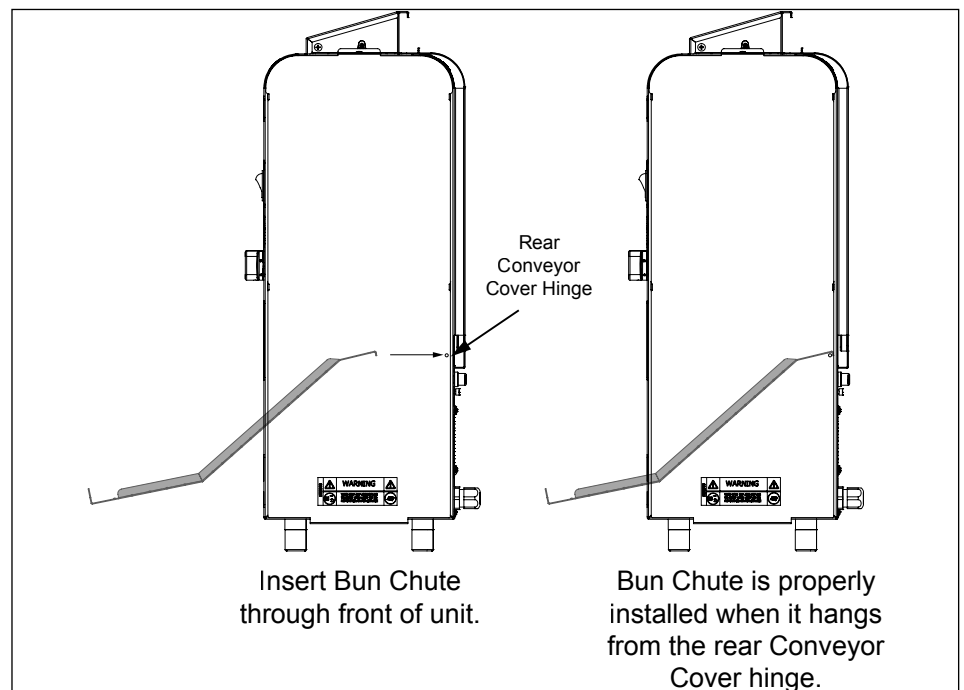

Figure 2. Installing Bun Chute
NOTE: The factory has pre-installed a Release Sheet over the Platen (Figure 2). Verify that it is properly in place before proceeding.
3. Hang the back of the Bun Chute on the rear Conveyor Cover hinge. When properly installed, the Bun Chute supports will be flush against the front of the unit (Figure 2).
NOTE: Make sure Heat Shield assembly is activating the Conveyor Interlock Switch (Figure 2). The conveyors will not rotate unless the Heat Shield is in place and Conveyor Interlock Switch is activated.
15. Reinstall the Bun Chute through the front of the toaster. Hang the back of the Bun Chute on the rear Conveyor Cover hinge. See Figure 2 on page 5. Reinstall the Heat Shield.